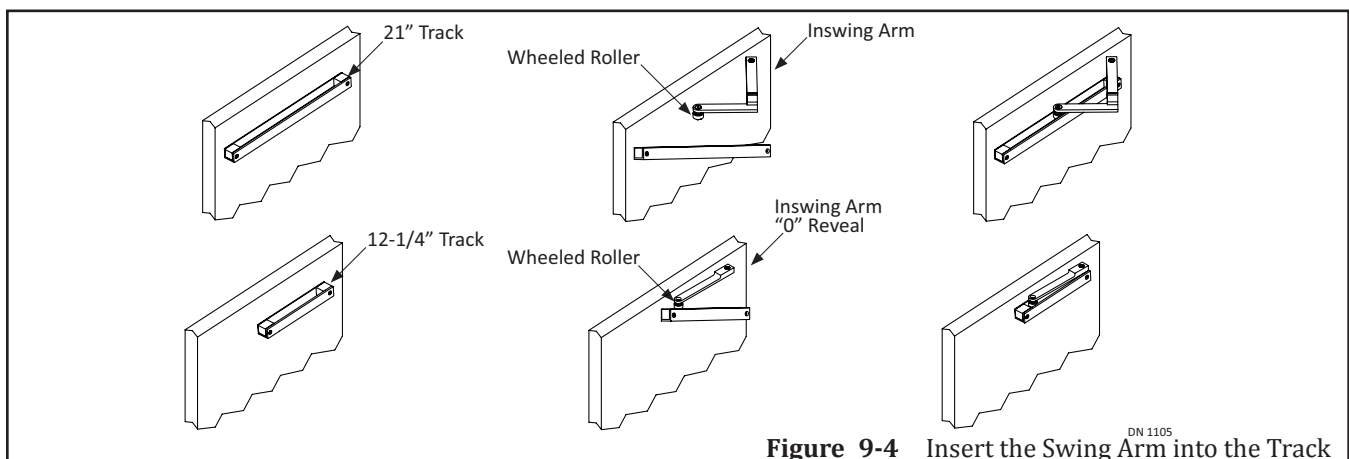

Figure 9-4 Insert the Swing Arm into the Track
- Remove the first 1/4"-20 x 2-1/4" Screw (closest to the Pivot Door Jamb) that is used to secure the Track to the Swing door, so that side of the Track will hang down. Please see Figure 9-4.
- Secure the Track to the Swing door with (1) 1/4"-20 x 2-1/4" Screw.
- Secure the Swing Arm to the Operator Spindle with (1) Set Screw. Tighten but do not overtighten.